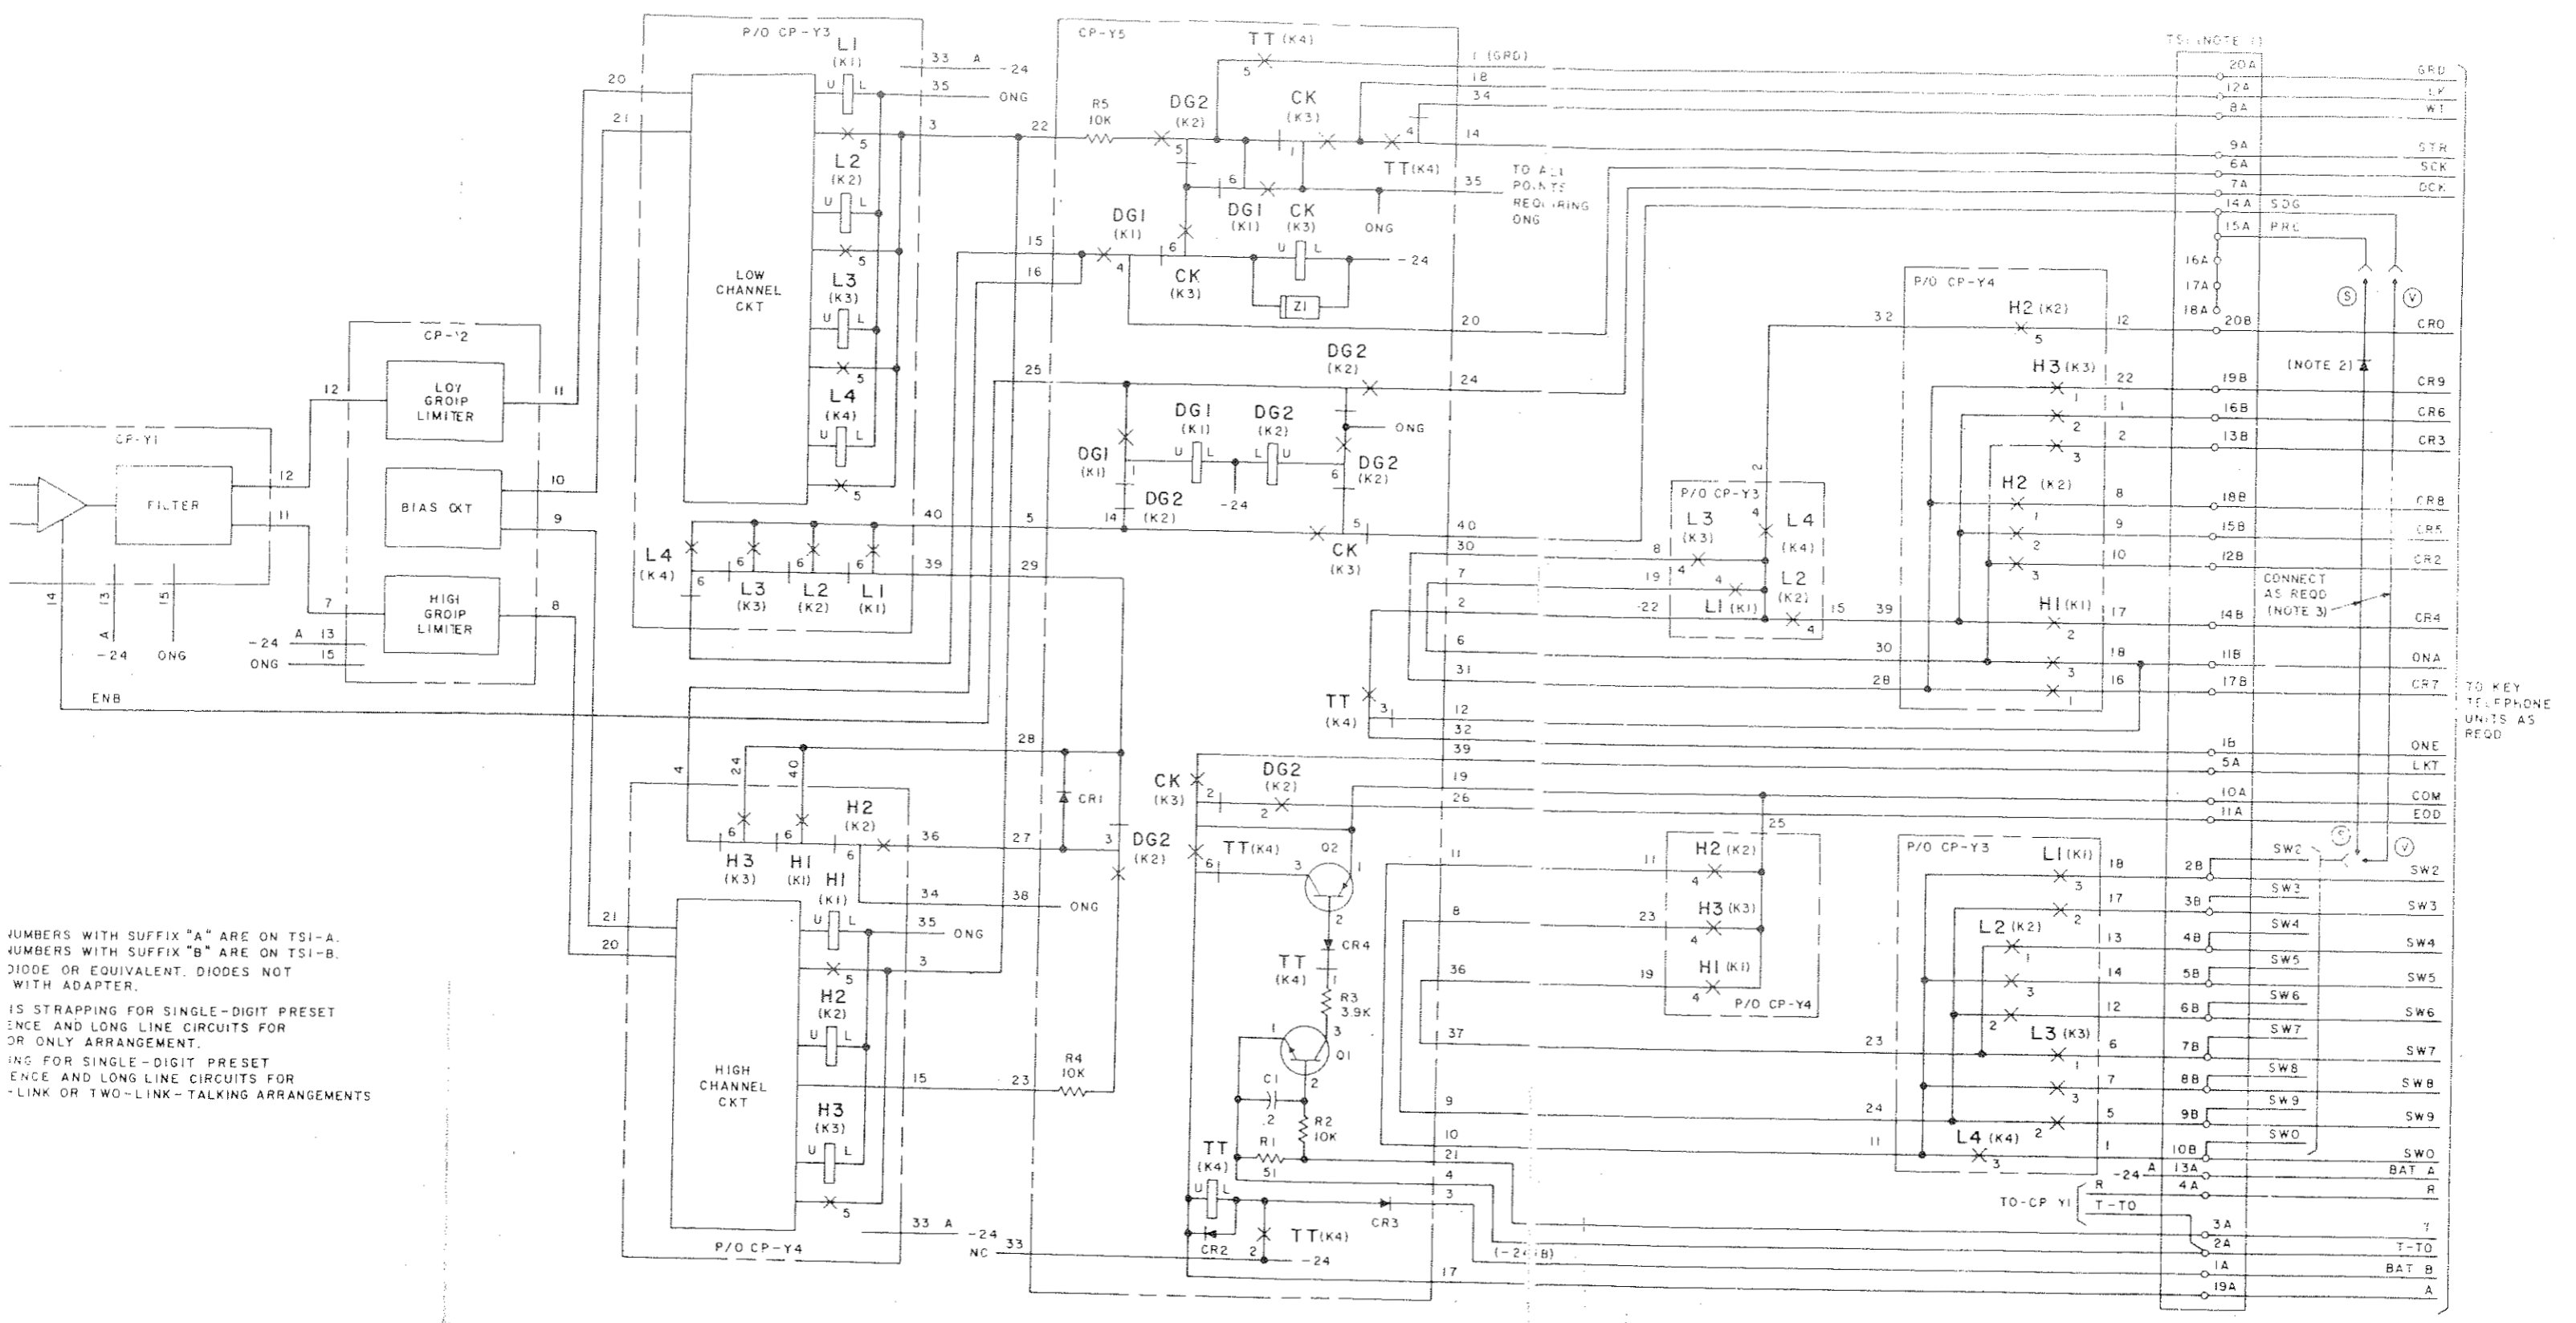

Fig. 9 - Circuit for Use With 207C Selector
4.01 Fig. 9 shows connections to the 247B adapter when used with the 207C selector. Relay functions and contact numbers are included